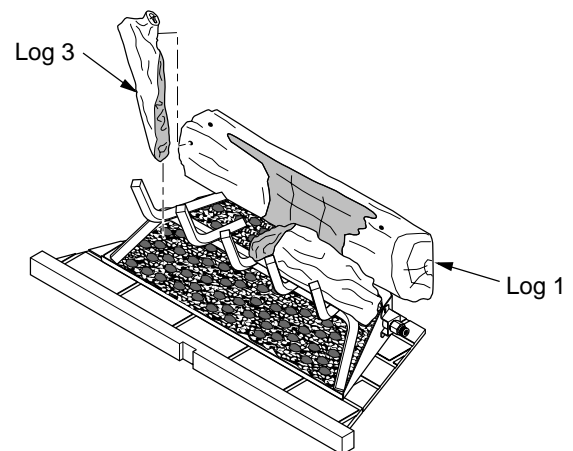
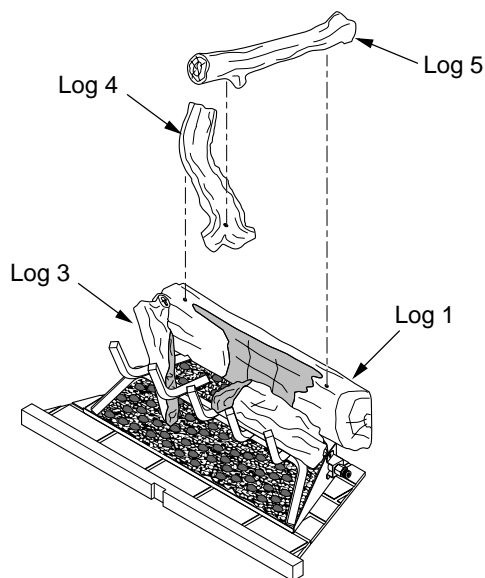
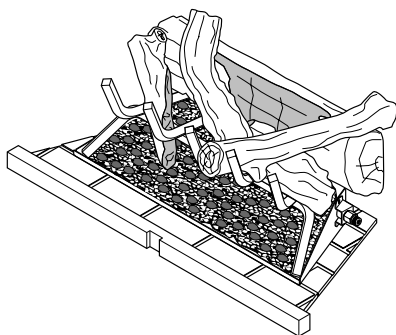

Figure 27 - Installing Log 3
Figure 28 - Installing Logs 4 and 5
Figure 29 - Logs Installed
3. Insert peg on back of log 3 into hole on left front of log 1 (see Figure 27). Log 3 will rest between first two grate fingers on left of grate assembly (see Figure 28, page 14)
4. Insert peg on back of log 4 into hole on top left of log 1. Rest the front of log 4 on the grate as shown in Figure 29.
5. Insert peg on back of log 5 into hole on the top right of log 1 (see Figure 28). Rest the bottom of log 5 on grate as shown in Figure 29.